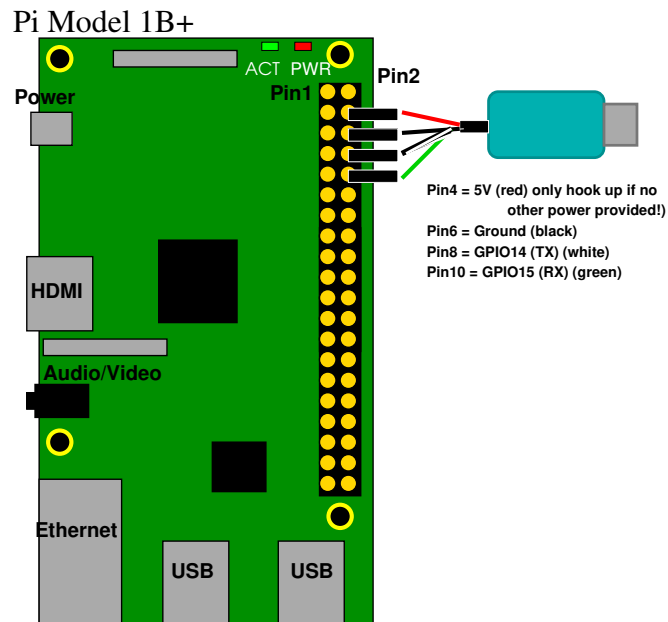

Figure 1: Raspberry Pi Layout
- (b) For all future assignments we will use the USB-serial adapter and you can power things with it (See Figure 1). I'd recommend you power things that way in this assignment just so you're used to it and it's fewer cables to worry about.